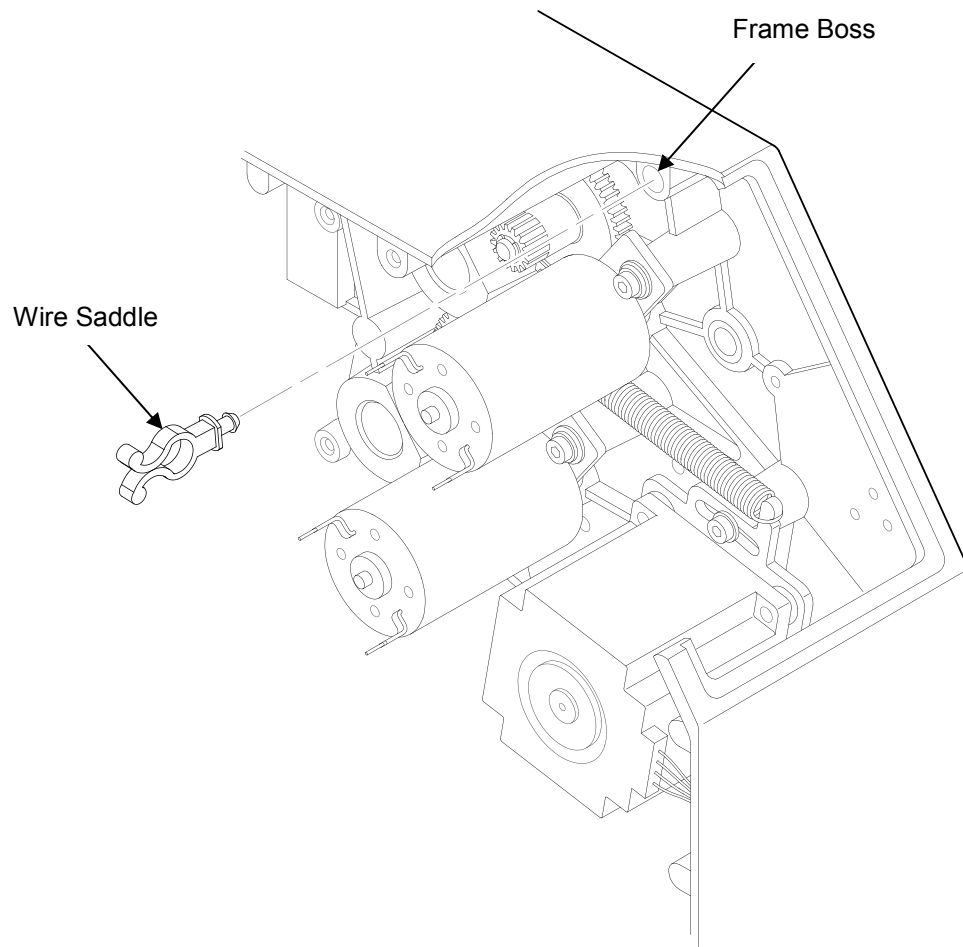

Figure 13 Inserting the Wire Saddle into the Frame Boss (T8)
11. Insert the wire saddle into the frame boss (Figure 13).